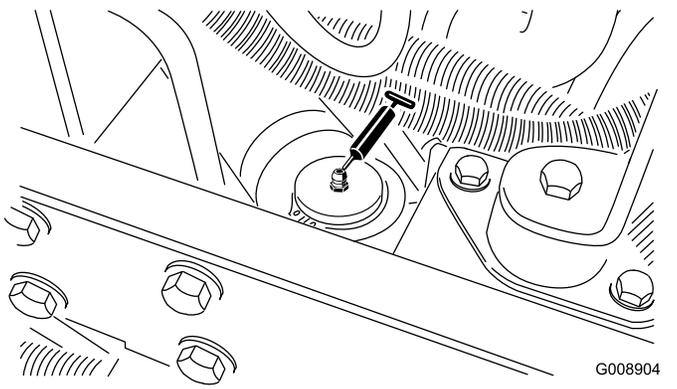

Figure 38
- Steering cylinder (Figure 38).